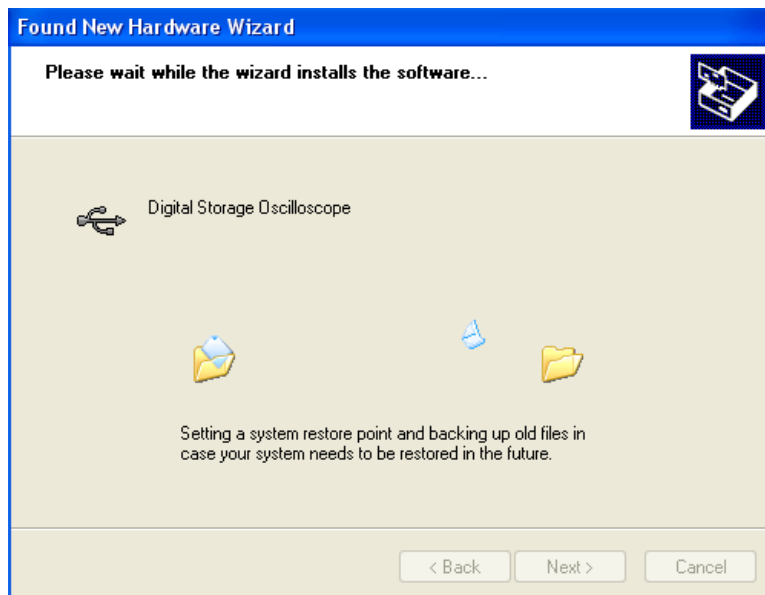
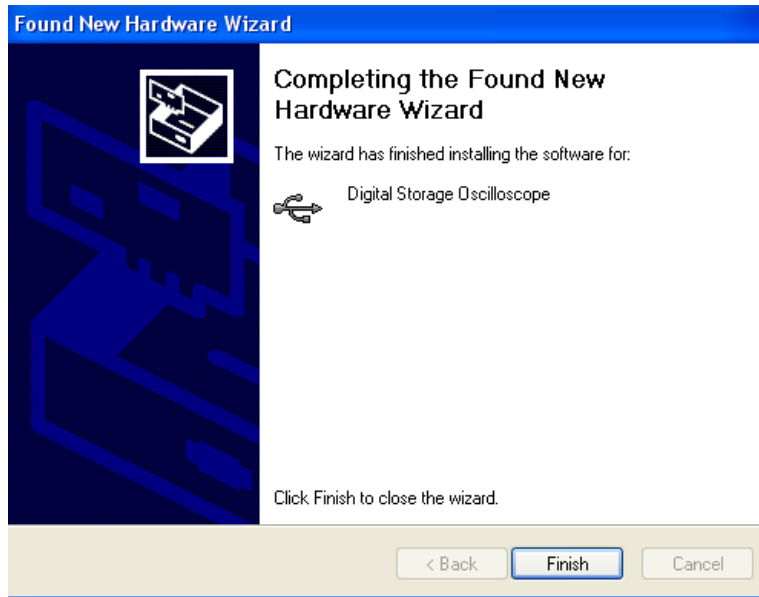

Figure 1-15
Figure 1-16
3. In the new hardware wizard dialog box in Fig 1-12, select the “automatic software installation (recommended) (I) option, then click [NEXT (N)] to enter the automatic driver search and installation page, as shown in Fig 1-15.
4. As shown in Fig 1-15, the hardware installation wizard of your digital storage oscilloscope begins automatic searching and installing the USB driver for the oscilloscope communication and control software. When installation is complete the dialog box shown in Fig 1-16 pops up.
5. In Fig 1-16, click the [FINISH (E)] button. Your USB driver is now installed, and instant communication and control are enabled between the oscilloscope and the software. Please read “3.1 USB Interface Controls” in “Chapter 3 : Operation guide for the oscilloscope communication and control software” of this booklet prior to operation.